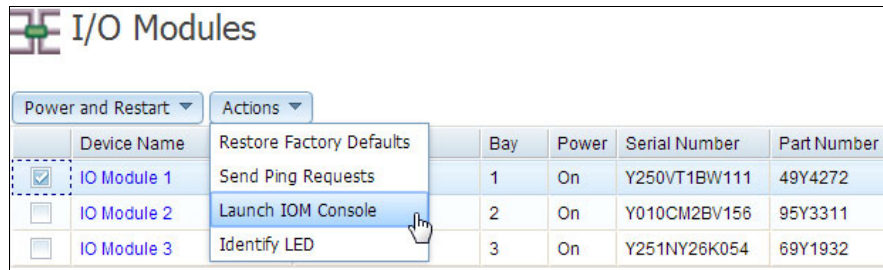

Figure 2-13 Launch IOM console
2. Select **Launch IOM Console**, as shown in Figure 2-13.